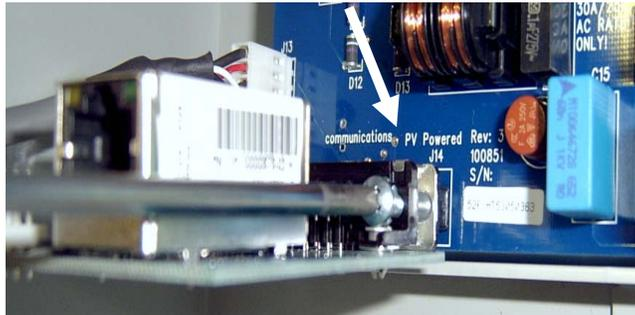

Figure 3
5. Use the two 4-40-type screws (provided in the product package) to secure the PVM1010 circuit board to the inverter (Figure 3).